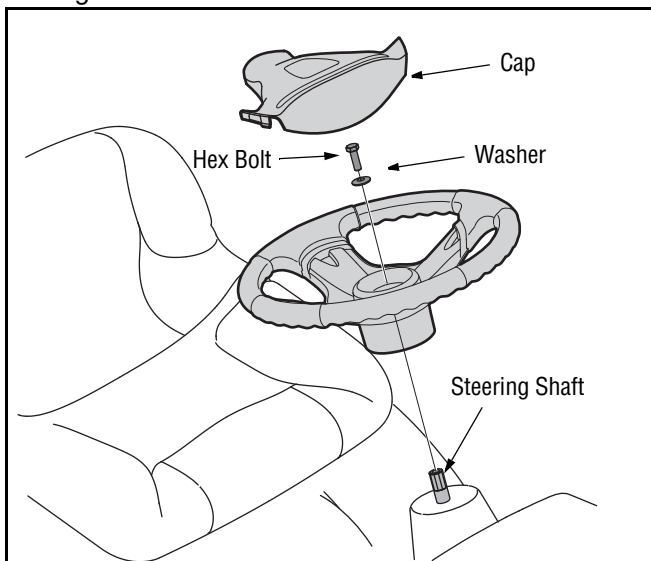

Figure 1
3. Place the washer (with the cupped side down) over the steering shaft and secure with the hex bolt. See Figure 1.